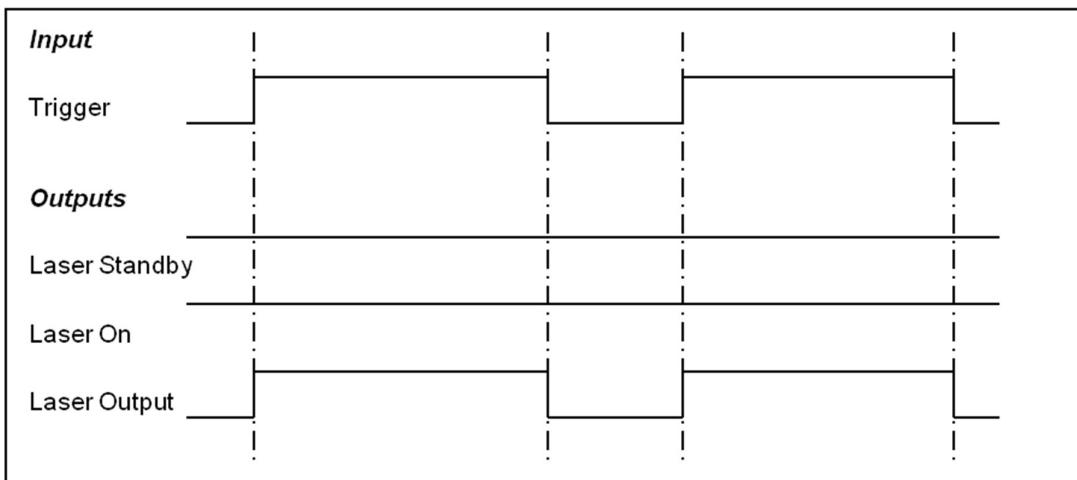

Figure 44 Gated Trigger Operation (CW Output)
- See Figure 15 to Figure 44 for example functionality.
- See Figure 20 to Figure 44 for example functionality.